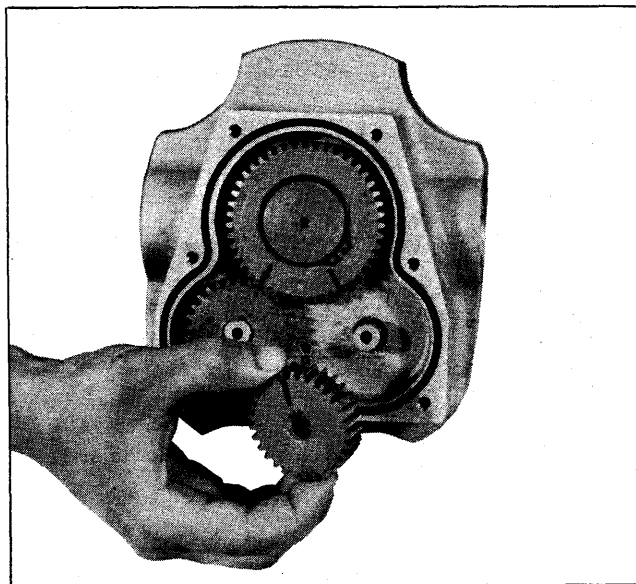

FIGURE 7
9.) Remove the snap rings that retain the gears, (Fig. 7) and remove the gears.